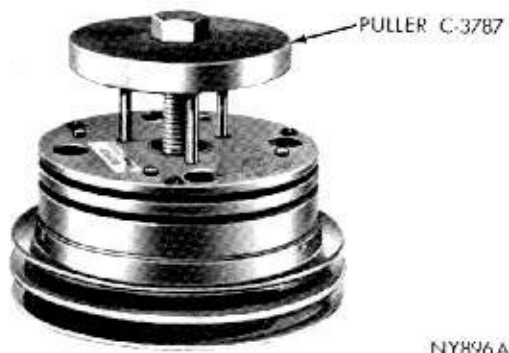
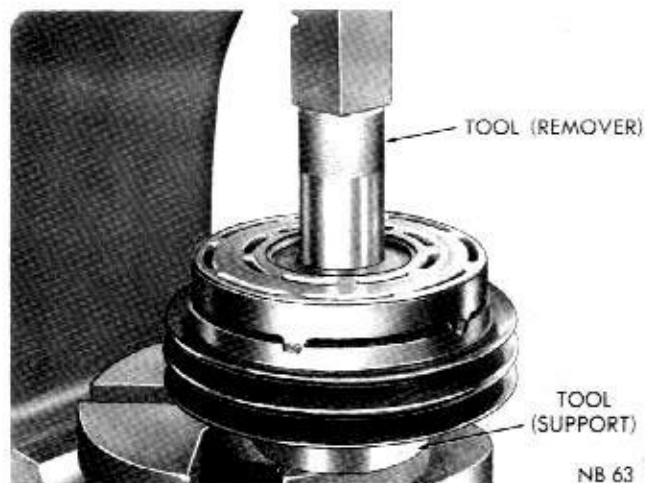

Fig. 2—Removing the Hub and Shoe Assembly
Fig. 3—Removing the Bearing from Pulley Assembly
- (1) Remove the small snap ring from the drive hub.
- (2) Install drive hub puller Tool C-3787 aligning the three pins of the Tool in the three holes in the hub and shoe assembly. Tighten the hex head bolt down until the drive hub is removed from the bearing (Fig. 2).
- (3) Remove bearing snap ring from pulley.
- (4) Place pulley assembly on an arbor press, with pulley side down, and bearing hub centered on Tool C-3825. Install Tool SP-3496 on inner race of bearing and press the bearing from pulley assembly (Fig. 3).